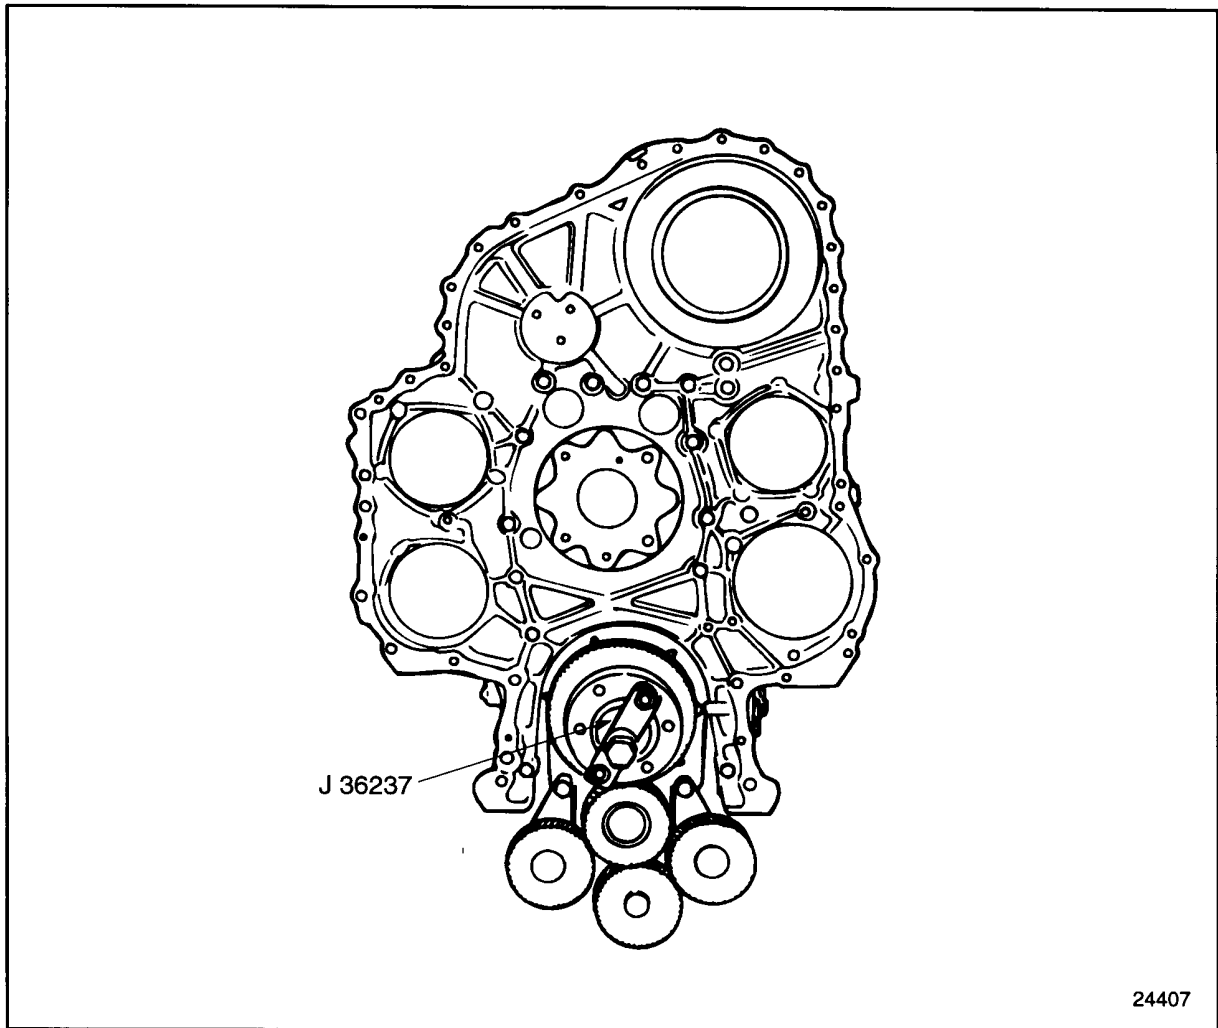

Figure 1-340 Barring Engine Over
3. Secure the engine barring tool, J 36237, to the front of the crankshaft. See Figure 1-340.